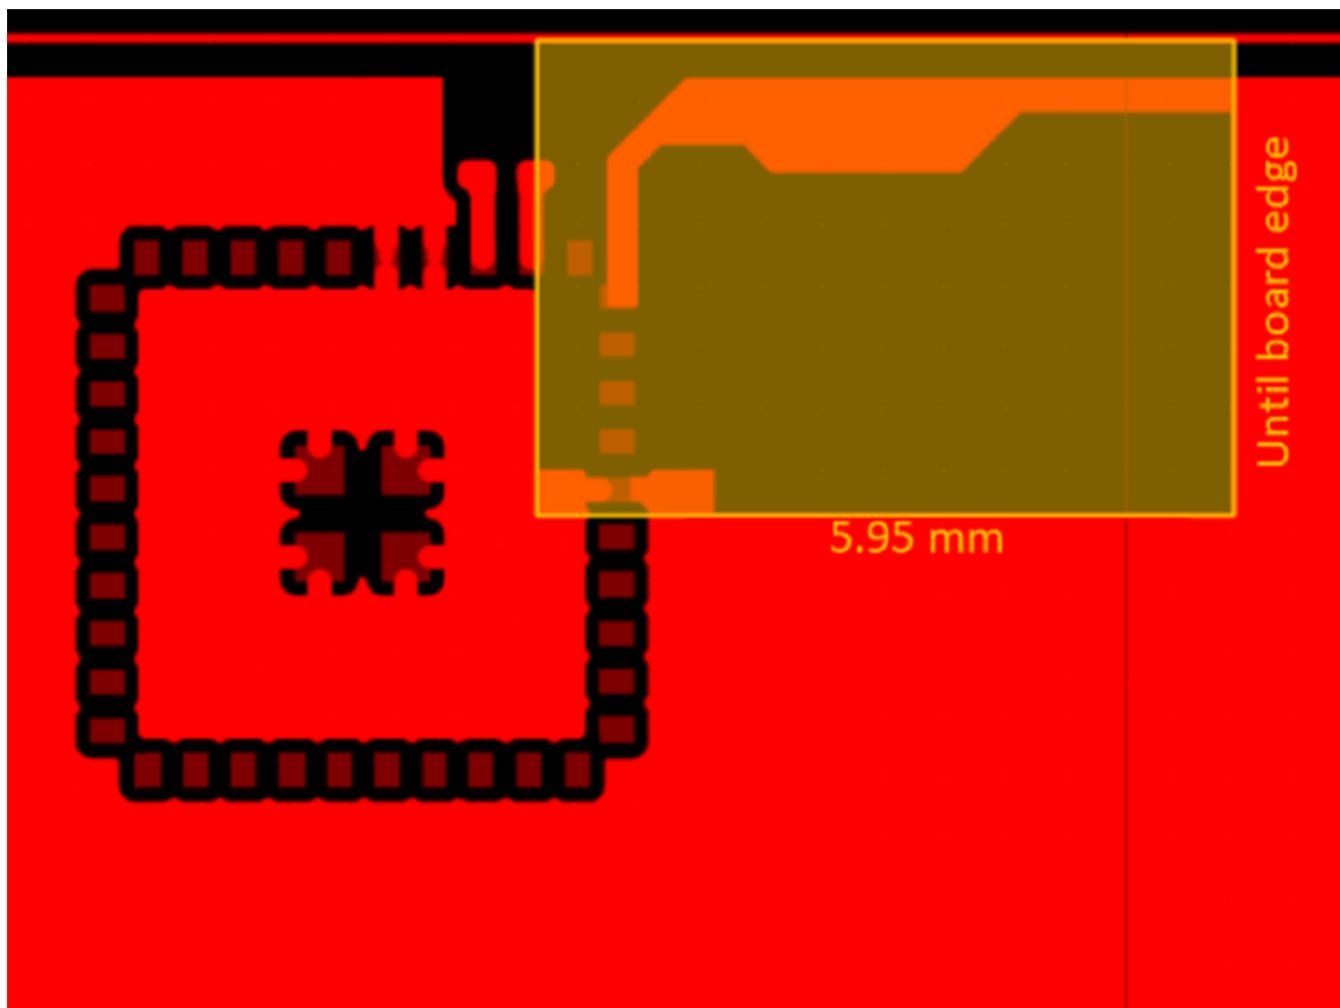

Figure 11: Antenna Clearance in Inner and Bottom Layers
- Make a cutout in all lower layers aligned with the right edge and the bottom edge of the antenna as indicated by the yellow box in Figure 11.
- Generally ground planes are recommended in all areas of the application board except in the antenna keep-out area shown in Figure 11.